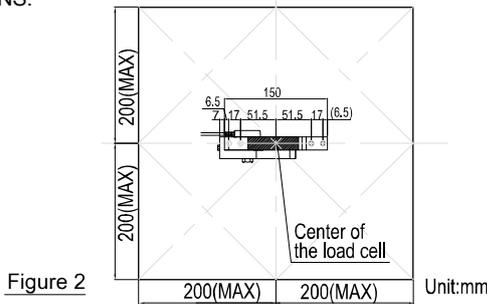

Figure 2
(6) For the allowable dimensions of the platform, refer to Figure 2. Also, when designing a platform, refer to the "3.2. OVERLOAD PRECAUTIONS."